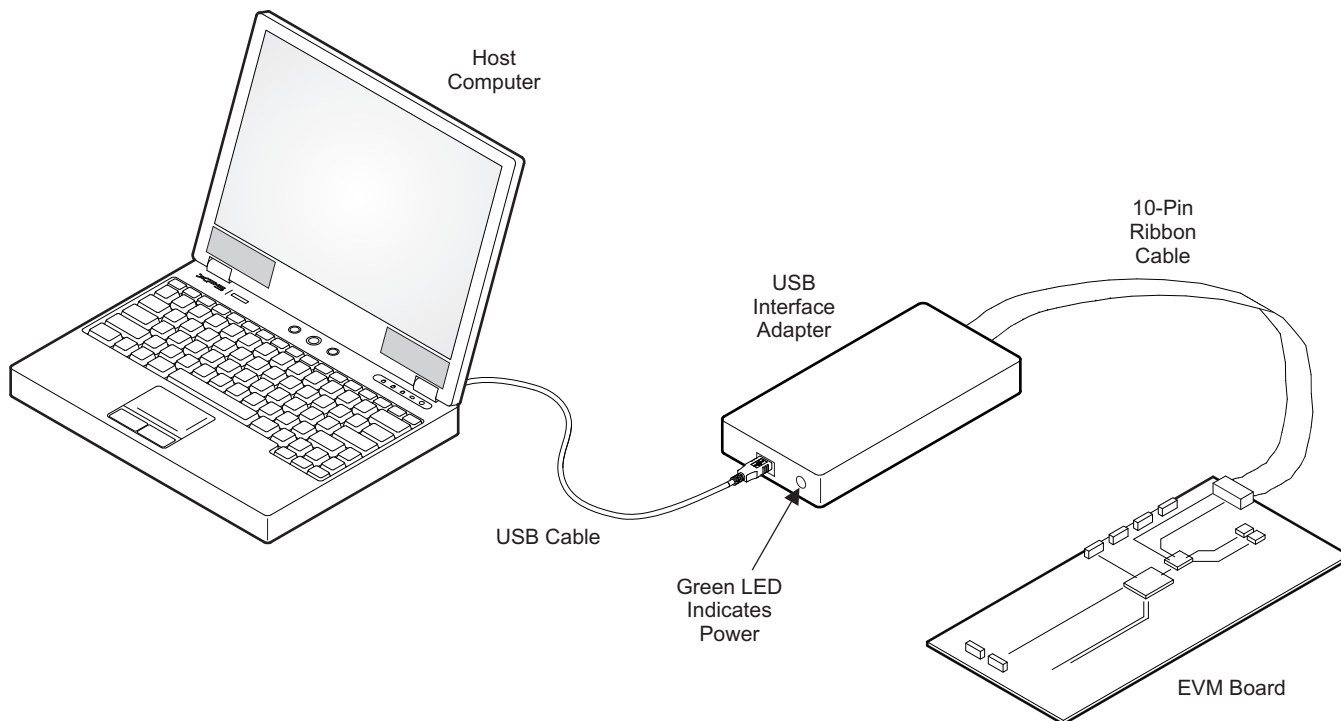

Figure 8. USB Interface Adapter Quick Connection Diagram
- Connect one end of the USB-TO-GPIO box to the PC using the USB cable and the other end to JP15 of the TPS65273V using the supplied 10-pin ribbon cable as shown in Figure 8. The connectors on the ribbon cable are keyed to prevent incorrect installation.